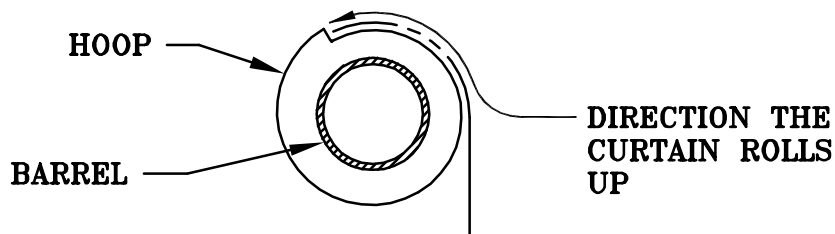

FIG. 19
- 1.) After determining whether you have RH or LH drive, place the barrel on the floor below the opening in the position it takes when actually mounted. If you have hoops, mount them loosely on the barrel as shown in FIG. 19. If wire rings are furnished consult page 14.